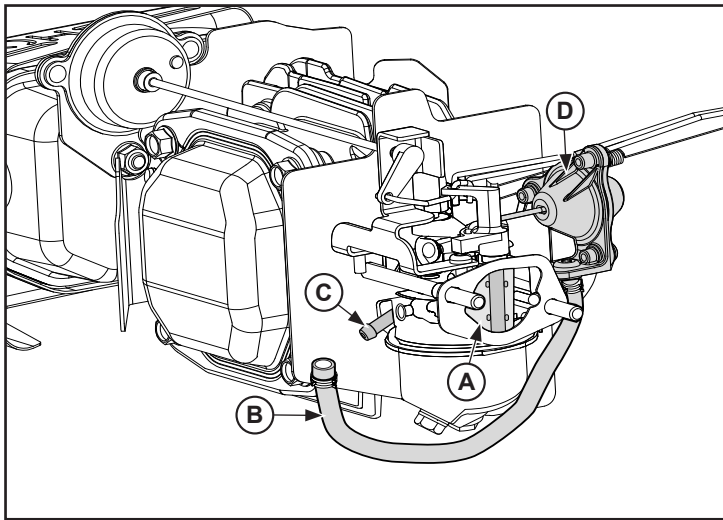

Figure 3. Diaphragm Assembly and Hose.
3. Remove the vacuum hose (B) from the carburetor vacuum fitting (C). Attach a vacuum gauge or manometer to the carburetor vacuum fitting (C). Run the engine while holding the choke plate open. The gauge should indicate a vacuum with a **minimum of 15" of water**. If the reading is correct, check again for binding of restricted linkage. See Figure 3.
5. Note the position of the choke plate (A). Attach a vacuum pump to the vacuum hose (B). The choke plate should open 1/2 to 3/4 under vacuum and with a **minimum of 15" of water**. If the diaphragm assembly is unable to open the choke plate, check the hose for cracks, leaks, or restrictions. If necessary replace the vacuum hose (B). If the hose is in working condition and the choke plate fails to open with the specified vacuum, or diaphragm fails to hold choke plate open for a minimum of three (3) seconds, replace the diaphragm assembly (D). See Figure 3.
6. Attach the vacuum hose (B) to the carburetor vacuum fitting (C). See Figure 3.